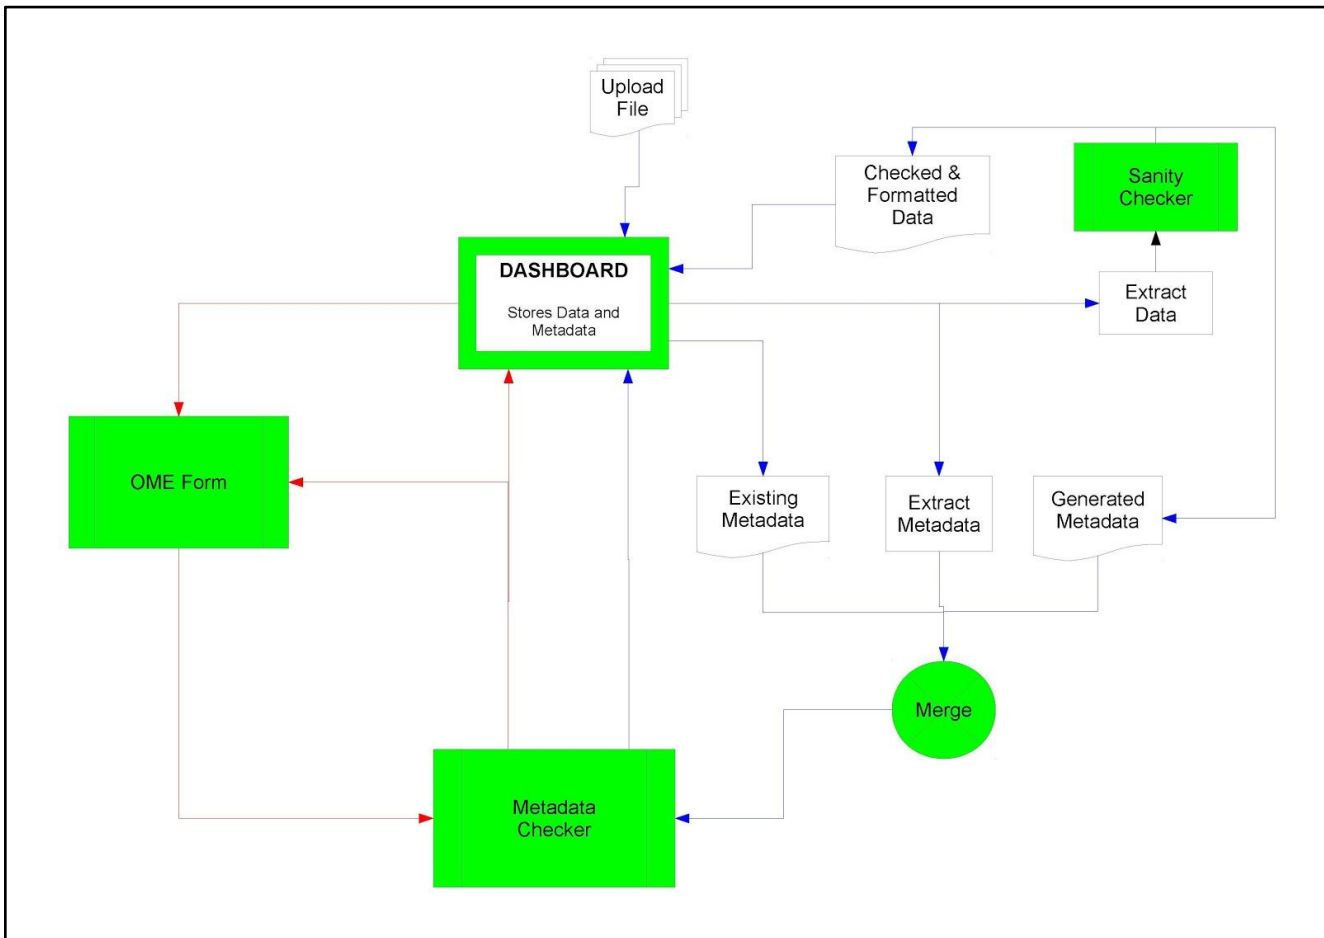

Figure 1. SOCAT v4 Dashboard and Metadata workflow
- Steve Jones provides an overview of the workflow of metadata ingestion using the automation dashboard (Figure 1).